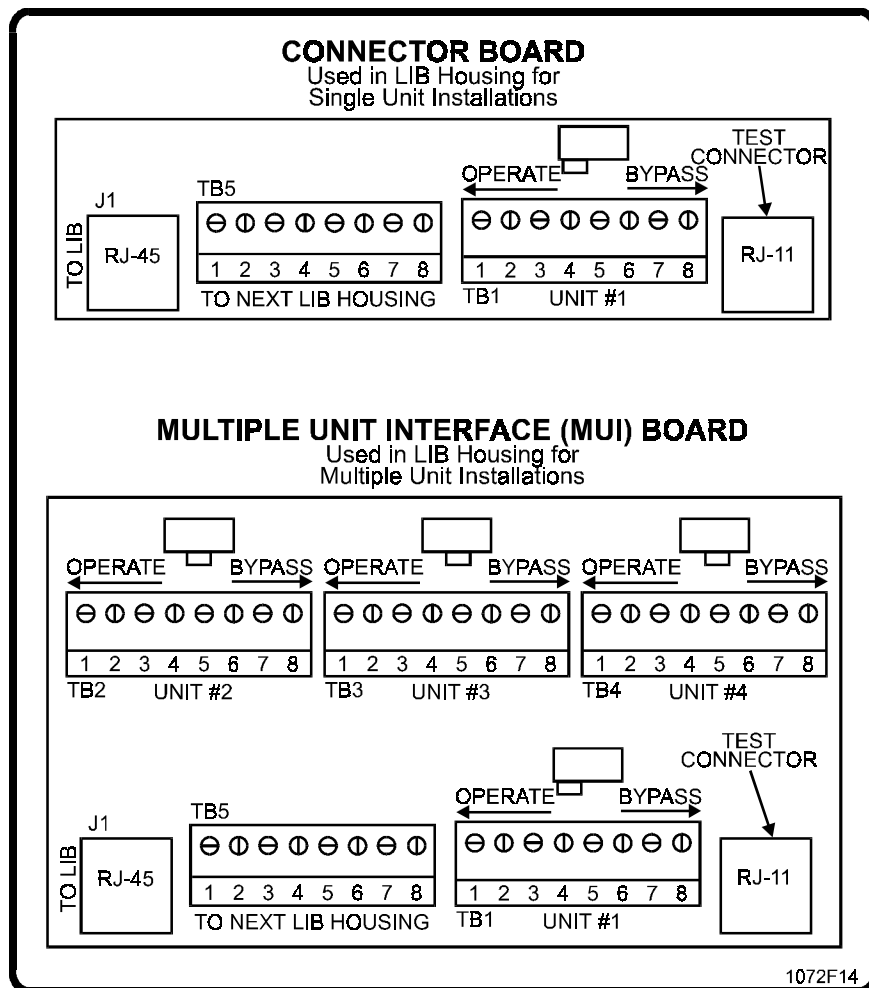

Figure 15. Connector Board and MUI Board Connections.
1. **Single Unit Installations:** Connect the 4 twisted pair cable from the Ovation controller to TB1 on the connector board in the first LIB housing (see Figure 15).
**Multiple Unit Installations:** Connect the 4 twisted pair cable from the Ovation controller to TB1 on the MUI in the first LIB housing (see Figure 15).
2. Connect all LIBs in the housing using the short 8-conductor cables with RJ45 connectors (provided with the LIBs). Connect them from J1 (OUT) of one LIB to J2 (IN) of the next LIB.
1. Plug your test telephone into the test connector on any MUI, lift the handset and dial "\*\*\*5". A beep will indicate you are in a limited programming mode (you may only do the areas described on this and the last page). See Figure 15 for location of the MUI test connector.
2. **Audio Continuity:** If the audio on a hands-free system is "clipping", have the called party speak while you adjust the "TENANT BIAS" pot (see Figure 15) in small increments. Adjust the pot clockwise if the resident's voice is clipping and counter-clockwise if the visitor's voice is clipping, until communications are clear. **Note:** Pot is normally set in the center of its range.